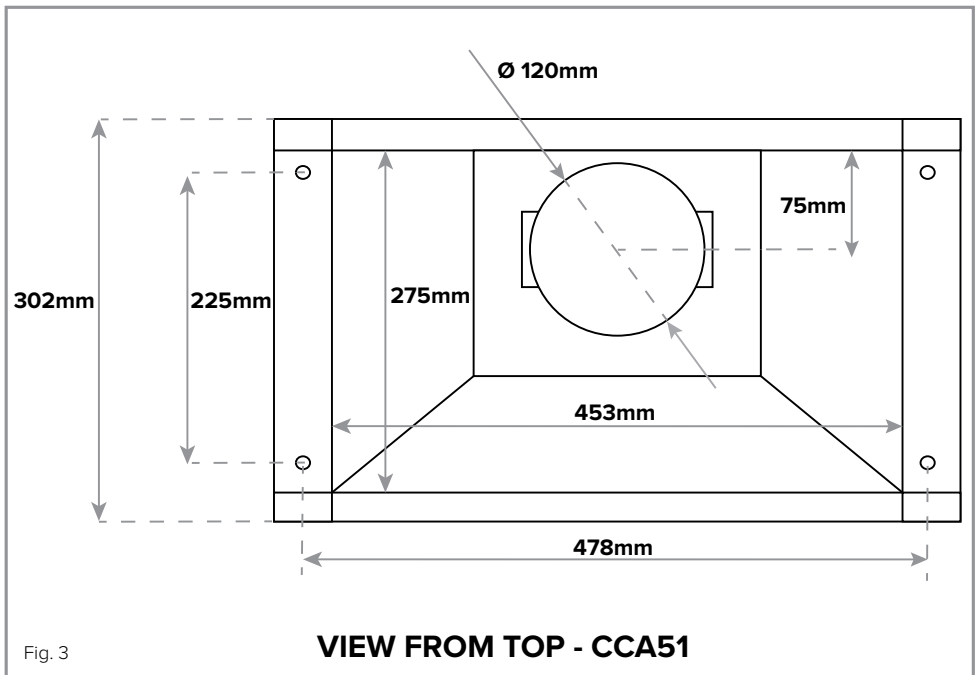

Fig. 3
2. Hold the extractor in the housing and secure to the canopy using 4 wood screws, through holes located in the corners of the extractor. These screw holes are shown in Figs. 3 & 5. We recommend that you seek the help of another individual when carrying out this task.